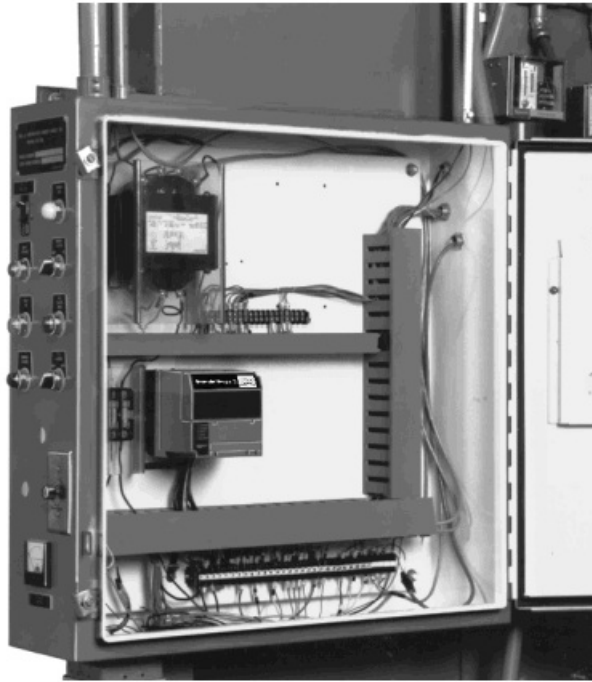

Fig. 9. Electrical panel installation.
1. Mount the EC7895 or RM7895 vertically, see Fig. 9 or 10, or mount horizontally with the knife blade terminals pointing downward. When mounted on the Q7800A, the EC7895 or RM7895 must be in an electrical enclosure, see Fig. 9.